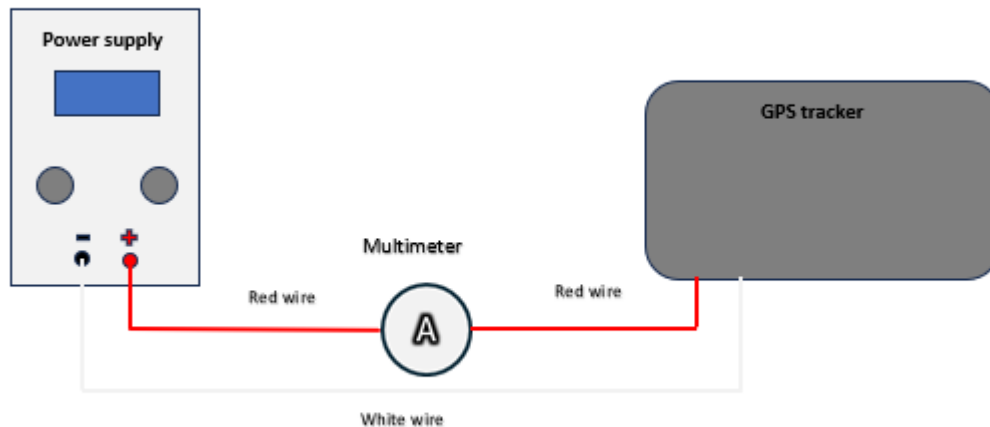

Fig. 2 Connection Diagram
3. Assemble the connection circuit according to "Fig. 2 Connection Diagram."